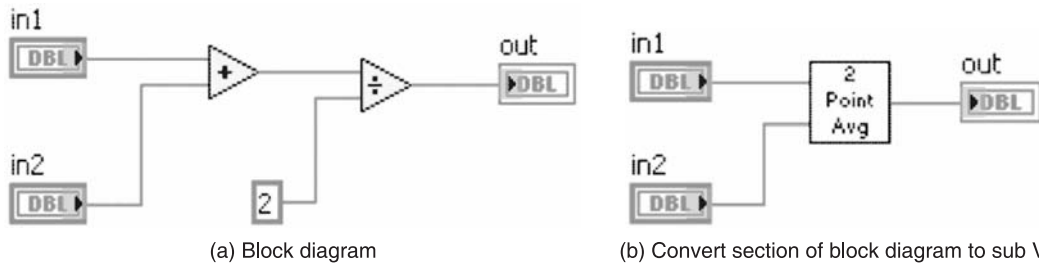

Figure P3.5
**Solution** The block diagram to find the average of two numbers and convert a section of a VI into a subVI by selecting that portion is shown in Figures P3.5(a) and P3.5(b) respectively.